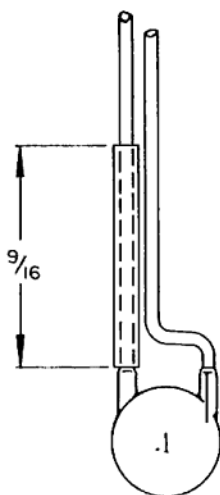

FIG. 2
- ☐ Prepare two .1 uf caps (C7 and C8) as shown in figure 2 by slipping a 9/16" piece of #24 insulation over one lead and bending the other as shown.